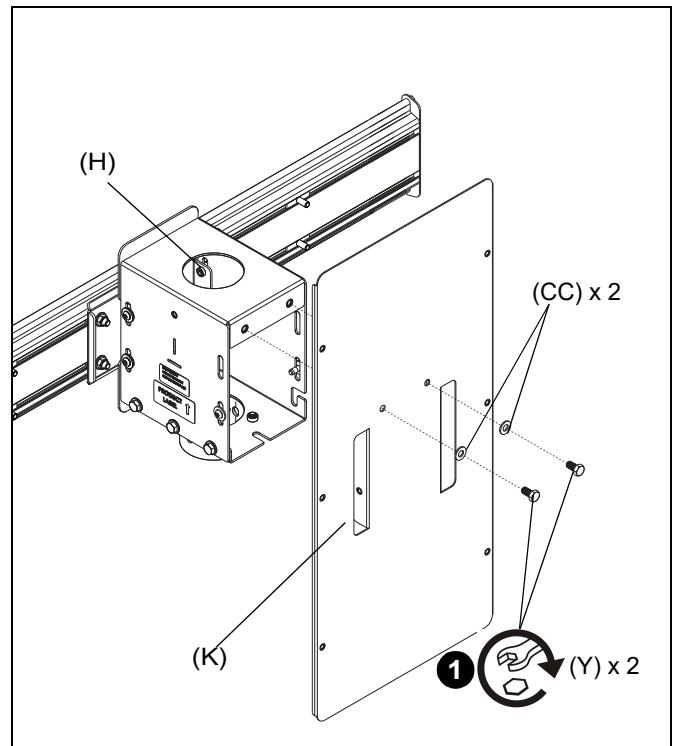

Figure 8
- Use two 5/16 x 5/8" hex head bolts (Y) and two 5/16" washers (CC) to secure center wind shield (K) to back of each mount assembly (H). (See Figure 8)